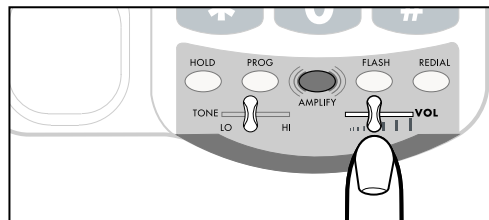

Figure 10 - Volume Slide Control
2. Adjust the ear piece volume while on a call by moving the **VOL** slide control in Figure 10. With **AMPLIFY** on, incoming volume will be up to 48dB louder.